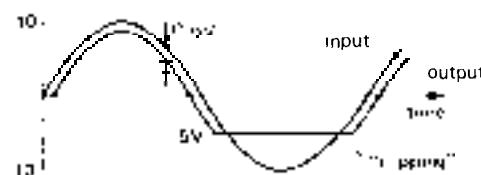

Figure 2.9. Illustrating the asymmetrical current drive capability of the npn emitter follower.
1. Notice (Section 2.01, rule 4) that in an emitter follower the npn transistor can only "source" current. For instance, in the loaded circuit shown in Figure 2.8 the output can swing to within a transistor saturation voltage drop of  $V_{CC}$  (about +9.9V), but it cannot go more negative than -5 volts. That is because on the extreme negative swing, the transistor can do no more than turn off, which it does at -4.4 volts input (-5V output). Further negative swing at the input results in backbiasing of the base-emitter junction, but no further change in output. The output, for a 10 volt amplitude sine-wave input, looks as shown in Figure 2.9.